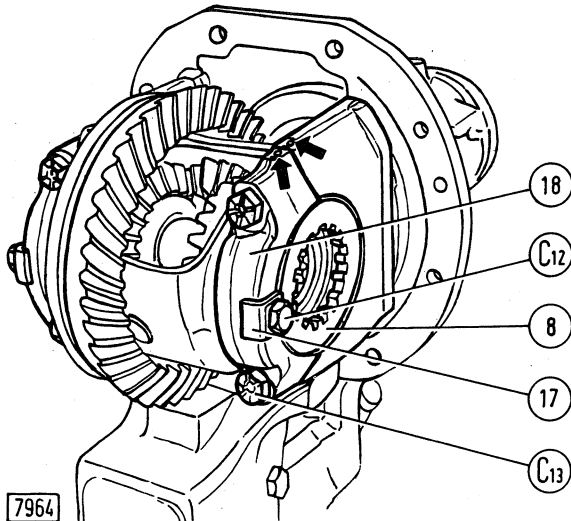

Fig. 6 - View of bevel gears and differential.
- separate the unit from the bearing housing by removing the adjustment ring nuts (8) and caps (18, Fig. 6);
At assembly, arrange the differential supporting caps, making sure that the factory assembly marks are in register (Fig. 6).